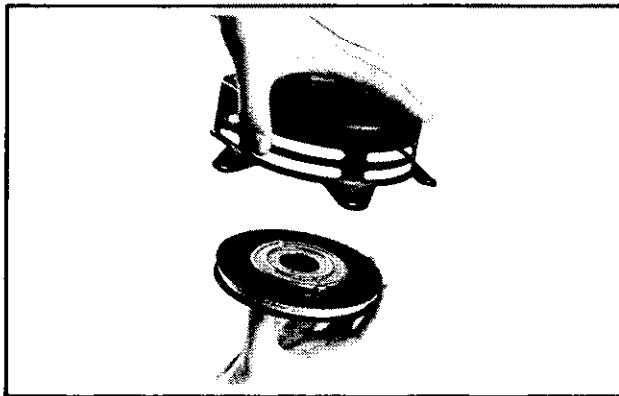

Figure 7-9. Installing Pulley And Spring Into Housing.
2. Install the pulley with spring and keeper assembly into the starter housing. Refer to Figure 7-9.